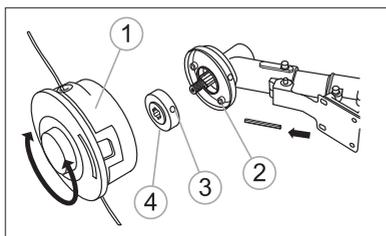

fig. 6
- Holding the rod in the holes 2 and 3 cups of the gearbox and the flange washer 4, spin the spool with the line counterclockwise until it stops (fig 6).